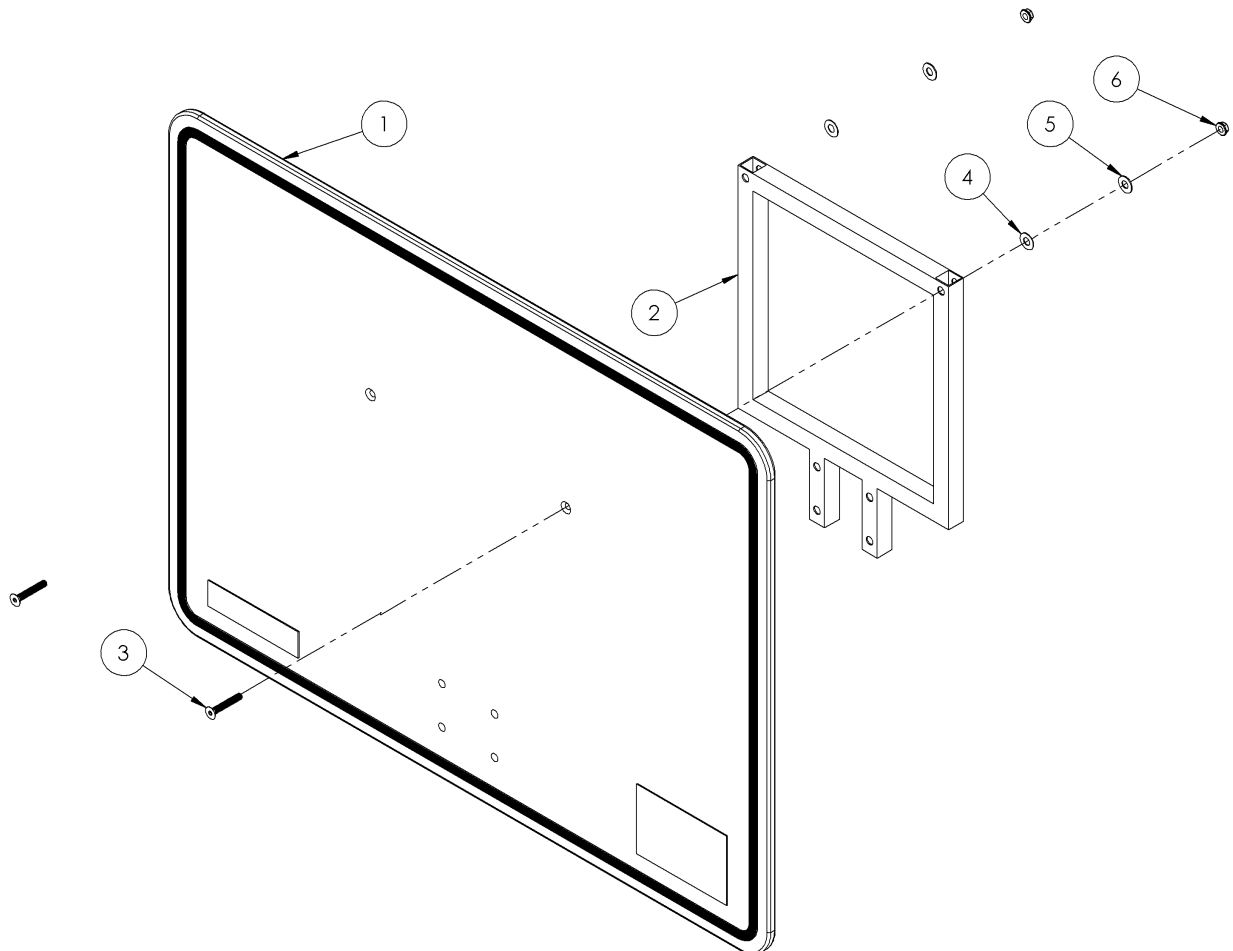

Fig.1
1. Assemble the Acrylic Backboard (1) to the Square Frame (2) with the 5/16"-18 X 2" Flat Socket Head Cap Screw SS (3), 3/8 Nylon Washer (4), 3/8" Flat Washer SS (5), and 5/16"-18 Flanged Nut SS (6), as shown in **FIGURE 1**. **DO NOT SET THE BACKBOARD ON CONCRETE OR OTHER ROUGH SURFACES.** Cardboard from the packaging is a good surface to work on. Do not fully tighten any of the hardware until all parts are assembled. **The pre-installed rubber bumpers in the Square Frame (2) must be oriented away from the Acrylic Backboard (1), as shown in the image below.**